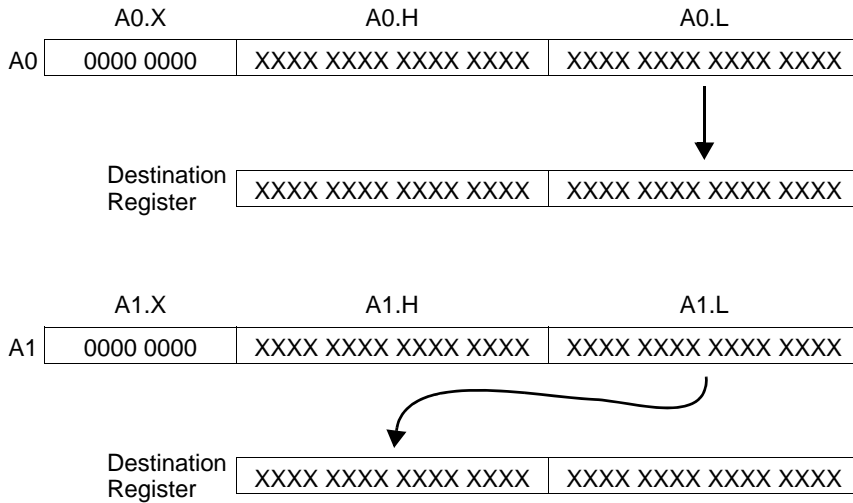

Figure 2-13. Multiplication of Integer Operands
- If the multiplication uses integer operands, then the low half of the result is extracted and stored in the 16-bit destination registers. These extractions provide the most useful information in the resultant 16-bit word for the data type chosen (see Figure 2-13).